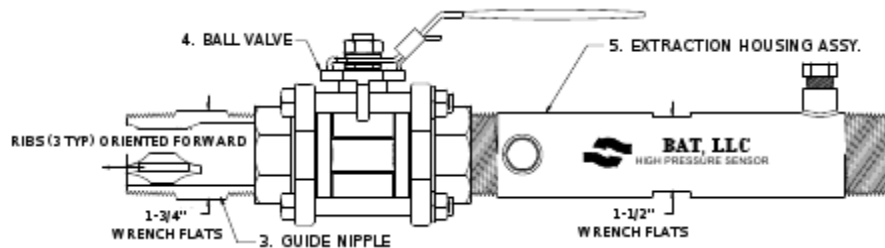

Figure 4. Hot Tap Partial Assembly 1 (Nipple-Ball Valve-Extraction Housing)
4. Attach and tighten the partially assembled hot-tap assembly via the extraction housing assembly (#5) to the inlet of the ball valve (#4). See Figure 4.